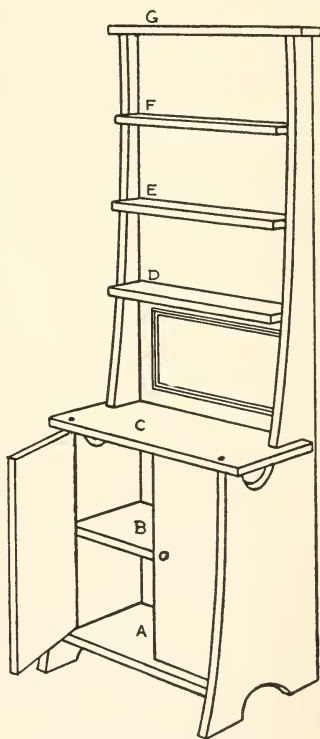

FIG. 272. — A Side-Board.
**A Side-Board** similar to Fig. 272 should be made for the dining-room. The pattern for the side pieces is shown in Fig. 262. After sawing these out, cut a piece
seven inches long by three inches wide for the back and fasten the side pieces to the edges of it. The location of the shelves can be obtained best by referring to Fig. 272 and the pattern in Fig. 262. Cut the bottom shelf (*A* in Fig. 272) three inches long by an inch and one-quarter wide and fasten it to the side pieces half an inch above the base (line 24 on pattern, Fig. 262). Make shelf *B* three by one inches and place it at line 22. *C* should be three and three-quarters inches long by an inch and one-half wide, with a small notch cut near each end with your knife, to make it fit over the side pieces (see illustration).
The lower portion of the side-board is inclosed with two doors two inches high by an inch and one-half wide. Small pieces of cloth may be used for hinges, but it is better to use pins, running them through the shelf above and below (*A* and *C*, Fig. 272) into the doors. Stick the pins near the edge of the doors and see that they are straight, so the doors will open easily. A small mirror attached to the back between shelves *C* and *D* will complete this piece of furniture.